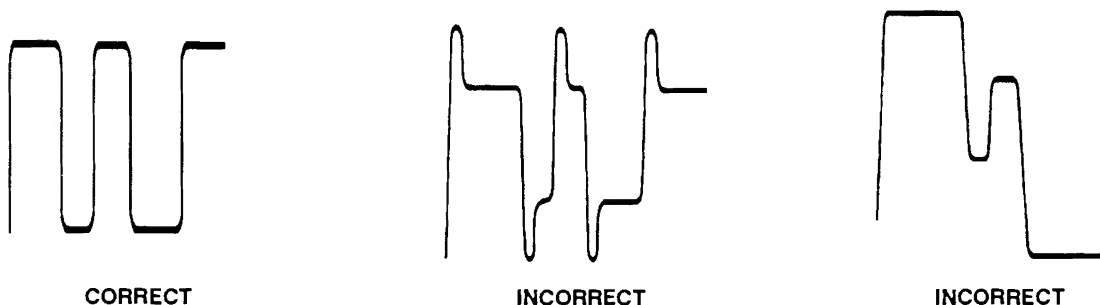

Figure 2 - 1 — Modulation Waveforms
7. Adjust RV401 so that modulation waveform from modulation analyzer matches the correct waveform shown in **Figure 2 - 1**.